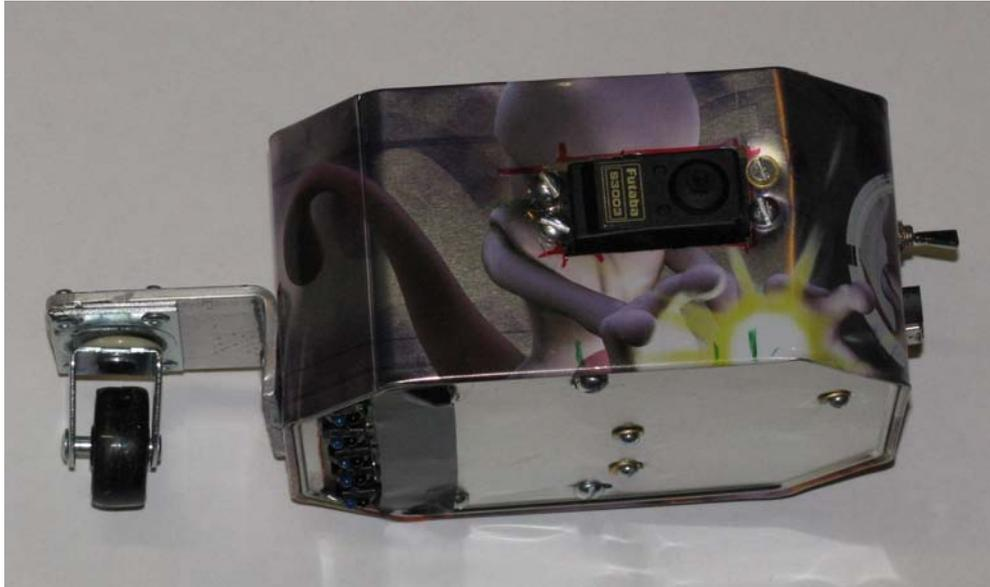

Figure 4-28. The caster wheel assembly is mounted in the frame along with the motors.
3. Now we mount the caster wheel assembly to the front of the frame, as shown in Figure 4-28. Drill a hole in the back of the bracket on each side to mount into the tin frame. Now center the caster wheel bracket on the front of the frame and adjust the height until it is the same as the rear (0.25 inch) and mark each caster bracket mounting hole to the frame. After marked, drill holes through the frame and mount the front caster wheel.
■ **Note** I went back and removed the 2 “L” brackets I previously made with a single 2-inch wide piece of aluminum flat bar (shown in Figure 4-28). I cut it to length and bent it in a vice as I did the previous brackets. I felt that the new piece looked nicer, but you can use whichever method you like.